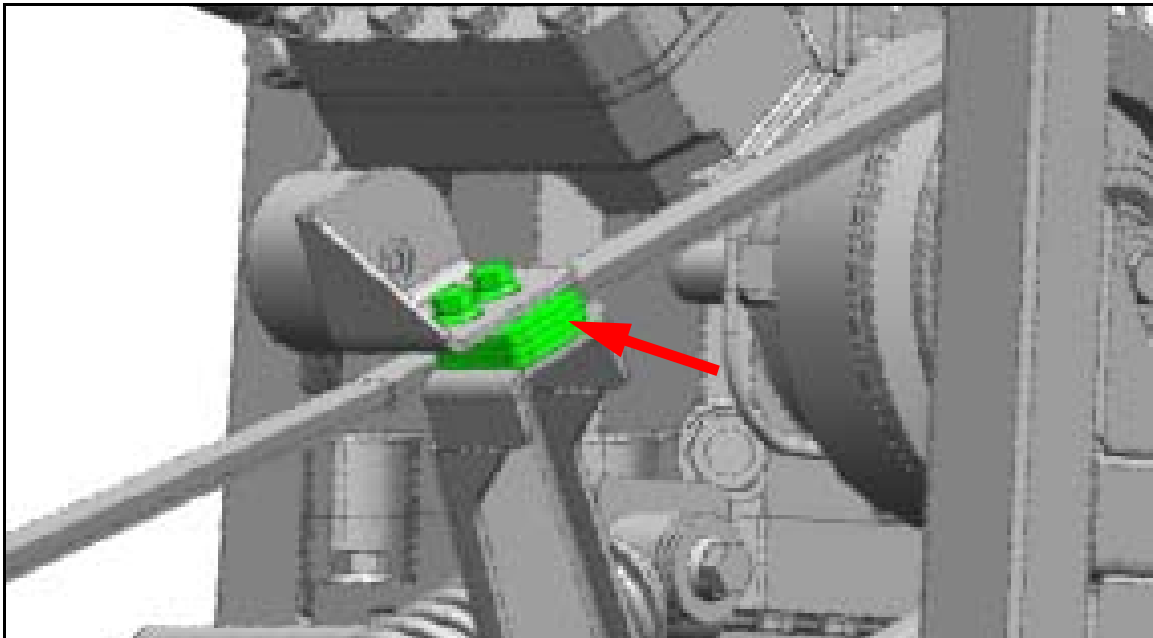

Figure 18. Addition of shim(s) to achieve a 3/8 inch belt deflection.
34. Remove the capscrew, p/n 19-01-1570 and lock nut, 19-03-0535 mounting the idler pulley to the snubber bracket. Orient and position the required quantity of shims, p/n 08-27-1324, between the idler pulley bracket and the snubber bracket (refer to Figure 18).